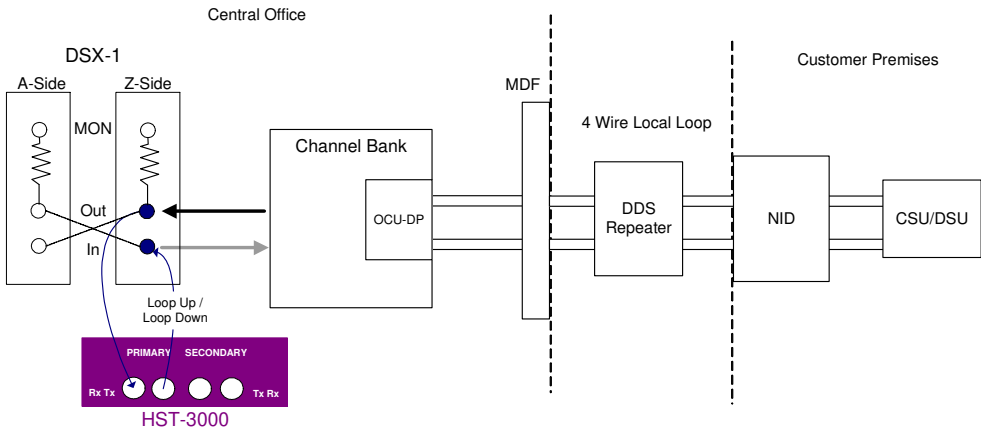

Figure 10 Loopback Connections
- 13** If you are using two test sets, skip to step 15. If you are configuring a loopback test, connect the HST to the test access point (see Figure 10):